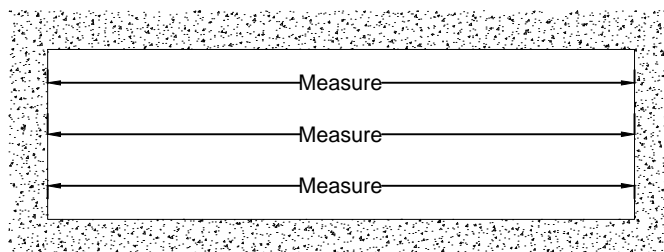

Fig. 28.2
- B. Measure the width of the opening (Rough Opening) at the top, middle and bottom. Select the smallest of these dimensions and subtract the left and right caulk joint width per approved shop drawing (1/2" minimum caulk joint at jambs). **SEE Fig. 28.2.**